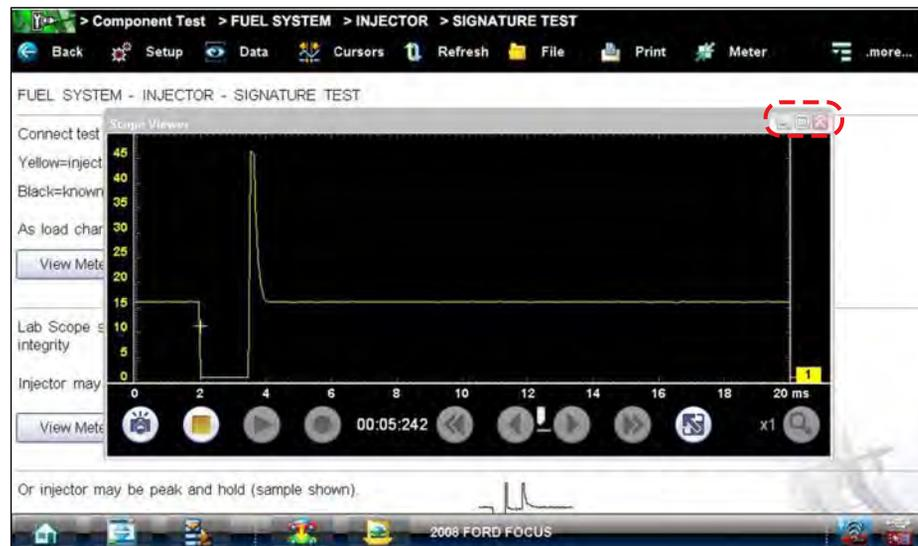

Figure 7-8 Sample meter view in a separate window
2. Tap the **Meter** button a second time and the meter opens as a separate window (Figure 7-8). This window can remain open if you switch to the Scan Module and can be accessed from the Windows toolbar at the bottom of the screen. You can also resize and reposition the meter window on the screen.